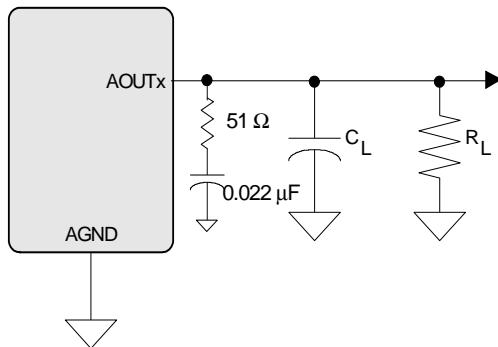

Figure 2. Headphone Output Test Load
5. See Figure 2. R_L and C_L reflect the recommended minimum resistance and maximum capacitance required for the internal op-amp's stability and signal integrity. In this circuit topology, C_L will effectively move the band-limiting pole of the amp in the output stage. Increasing this value beyond the recommended 150 pF can cause the internal op-amp to become unstable.
Test conditions (unless otherwise specified): Input test signal is a full-scale 997 Hz sine wave; Sample Frequency = 48 kHz; Measurement Bandwidth is 20 Hz to 20 kHz; Test load R_L = 16 Ω, C_L = 10 pF (see Figure 2); “Required Initialization Settings” on page 32 written on power up.
Test conditions (unless otherwise specified): Input test signal is a full-scale 997 Hz sine wave; measurement bandwidth is 20 Hz to 20 kHz; Sample Frequency = 48 kHz; Test load $R_L = 10 \text{ k}\Omega$, $C_L = 10 \text{ pF}$ (see Figure 2); “Required Initialization Settings” on page 32 written on power up.